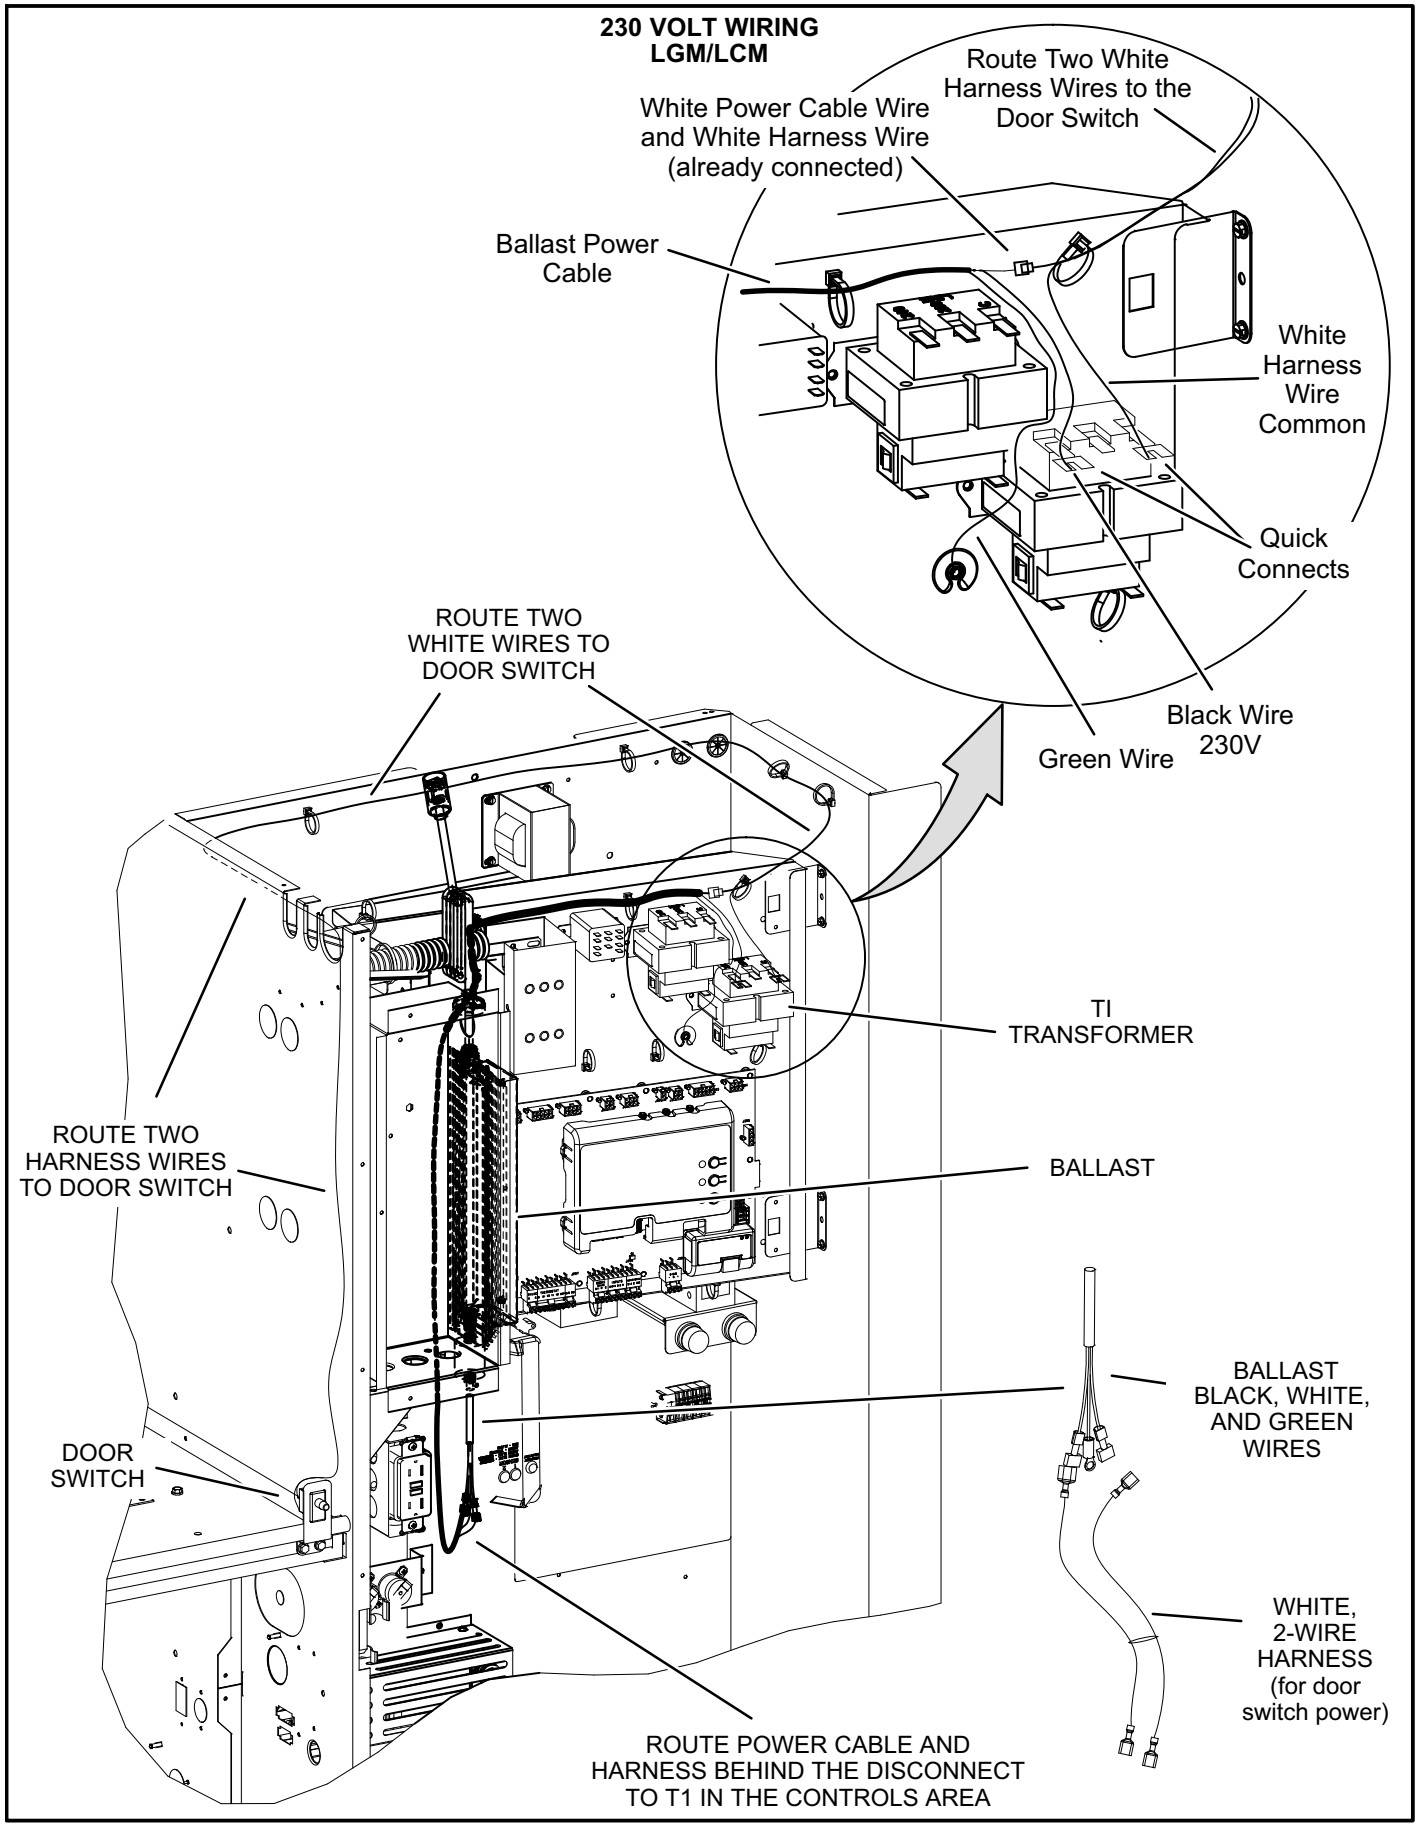

**FIGURE 8**
- Figure 8 - 460/575V LGH/KG with T3